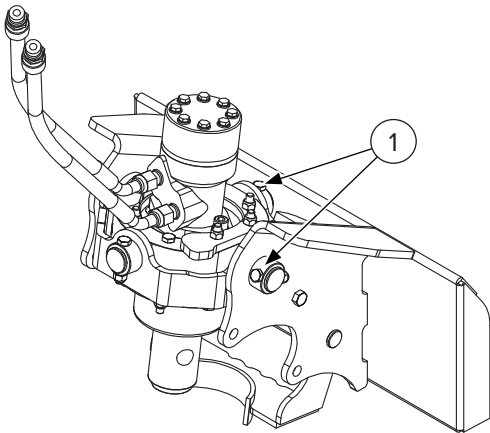

Figure 9
1. To remove the drive unit from the frame, remove the four (4) M10 x 60 mm long bolts and nylock nuts. See Figure 9, Item 1.